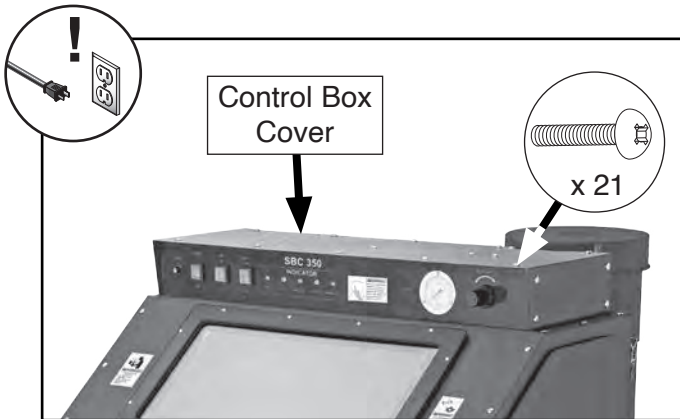

Figure 39. Control box cover and screws.
2. Remove (21) screws shown in **Figure 39** to remove control box cover.